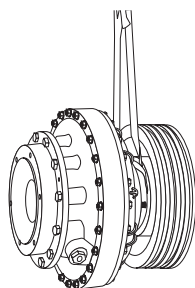

Figure 2
Sling between coupling and sheave using a complete wrap as shown in Figure 2.
- A. Remove belts and support coupling with a sling as shown in Figure 2, Page 2.